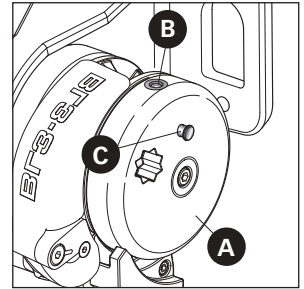

FIG. 1
- Turn the cover **A** until the pin's hole **B** faces upwards (as shown in fig. 1).